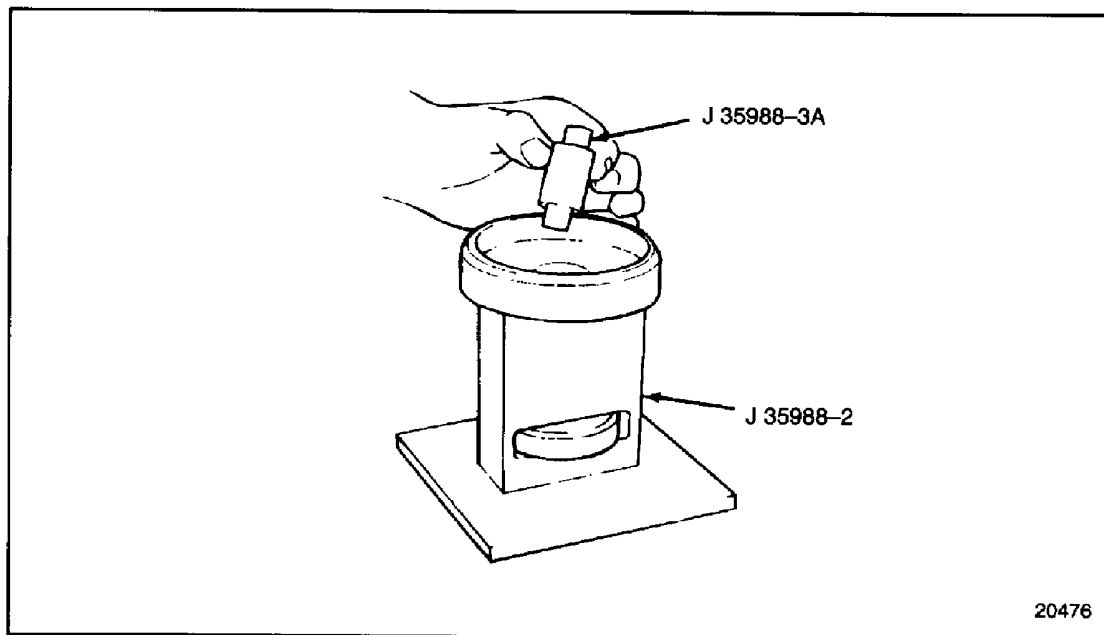

Figure 4-22 Support Installation
12. Install the extension J 35988-3A part of J 35998-B, part of tool set J 35988-B, to the fixture tool. See Figure 4-22.